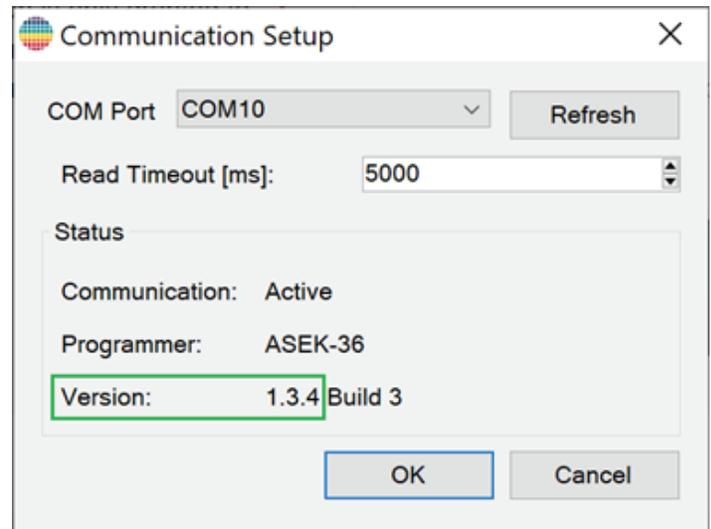

Figure 3: Version of Installed Firmware
8. Compare the stated version number with the .hex file version on the software website (see Figure 3). If the version number